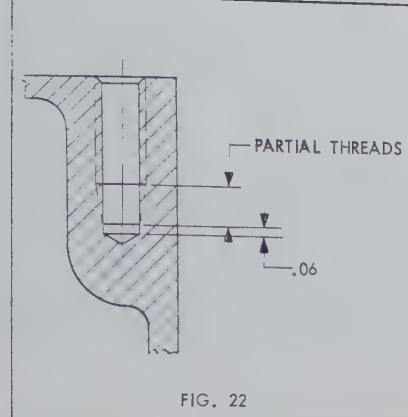

FIG. 22
**Threads — Tap Drill End Clearance:** Tap drill end clearance shall be .06. See Fig. 22.